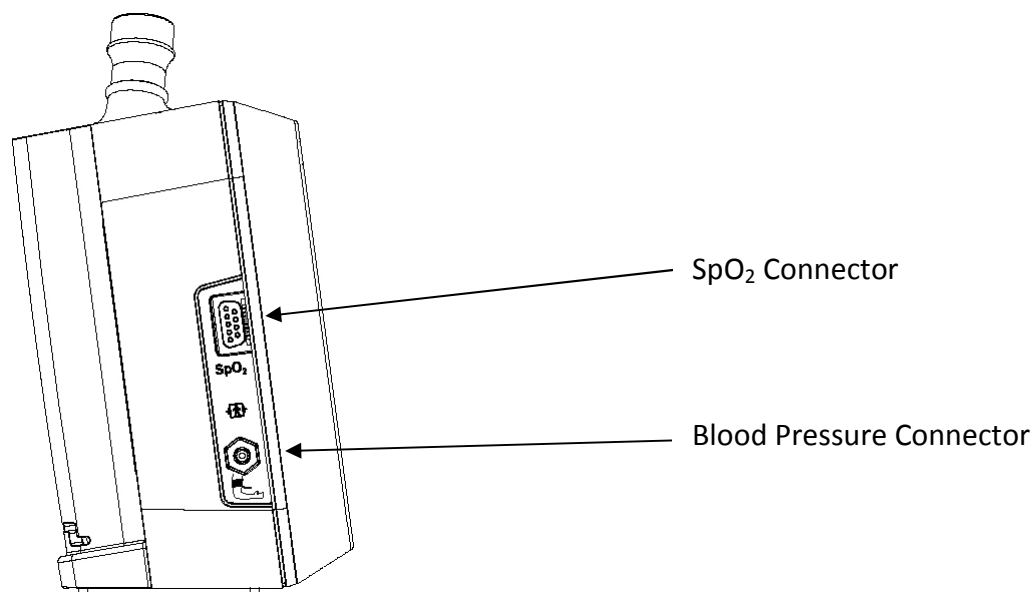

Figure 2
2. Attach the blood pressure hose to the connector located on the left side of the device (see **Figure 2**). Attach the appropriate size blood pressure cuff to the fitting at the end of the blood pressure hose.
3. Connect the SpO₂ sensor to the left side of the device (see **Figure 2**). If desired, connect the included SpO₂ extender cable to the sensor. Next, attach the SpO₂ extender cable to the SpO₂ connector on the left side of the device (see **Figure 2**). (**Applicable only to product model number 4-000-0510.*)